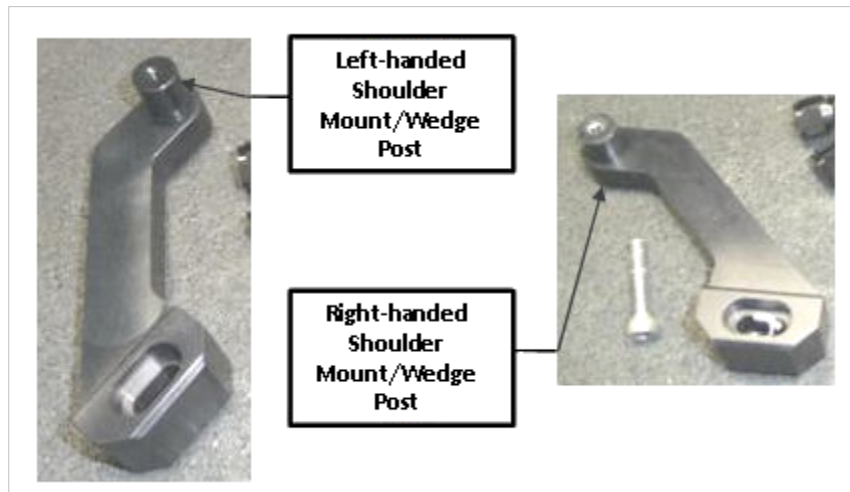

Figure 10 Left and right orientation of the wedge post in the shoulder block
2. Make sure the screw or wedge post is on the correct side of the shoulder mount, as shown in Figure 10.